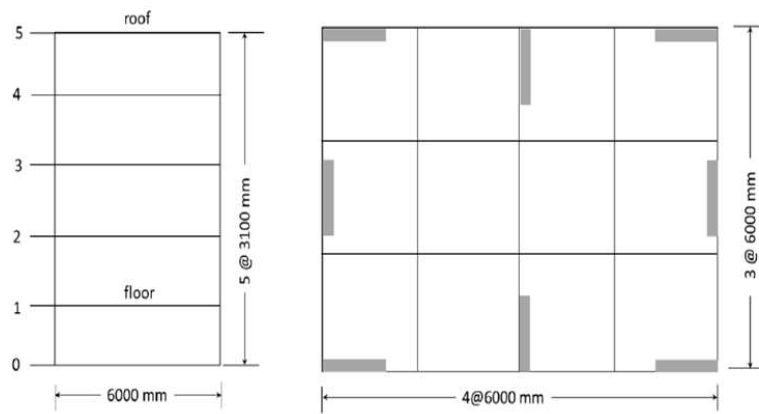

fig: 2
- 5b) State IS 3370 Code provisions for water tanks. Write design procedure for water tank. (8) CO4, CO5
- 5c) Calculate flexural strength of shear wall for a Five storey (G+4) apartment building as shown in figure 2. The unfactored axial loads due to D.L. & L.L. are 1980 KN & 648 KN respectively. The shear & B.M due to earthquake are 423 KN & 5276 KN-m respectively. The materials are M25 concrete & Fe 415 Steel. (8) CO4, CO5